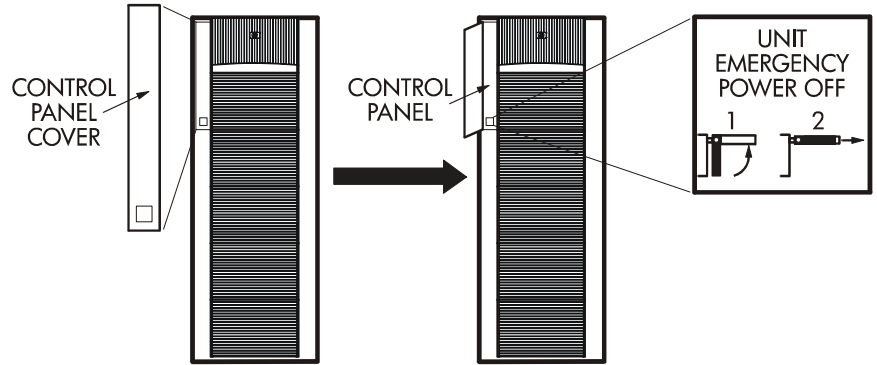

Figure 12. Pulling Unit Emergency Power OFF Switch
2. Pull the emergency power-off switch (Figure 12 on page 63) up and then out towards you as illustrated on the switch.